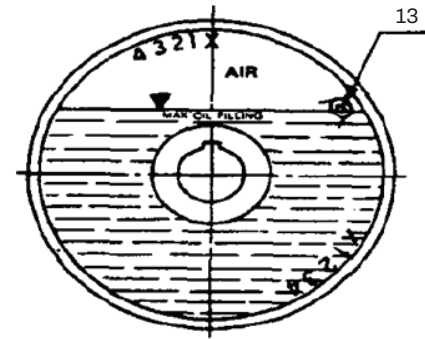

Figure 8 -
1. With the fluid coupling mounted in a horizontal plane, turn the coupling so the X mark which is cast into the housing is at the top (maximum filling) which will ensure the filler/level plug item 13, is in the correct angular position as shown in Figure 8.